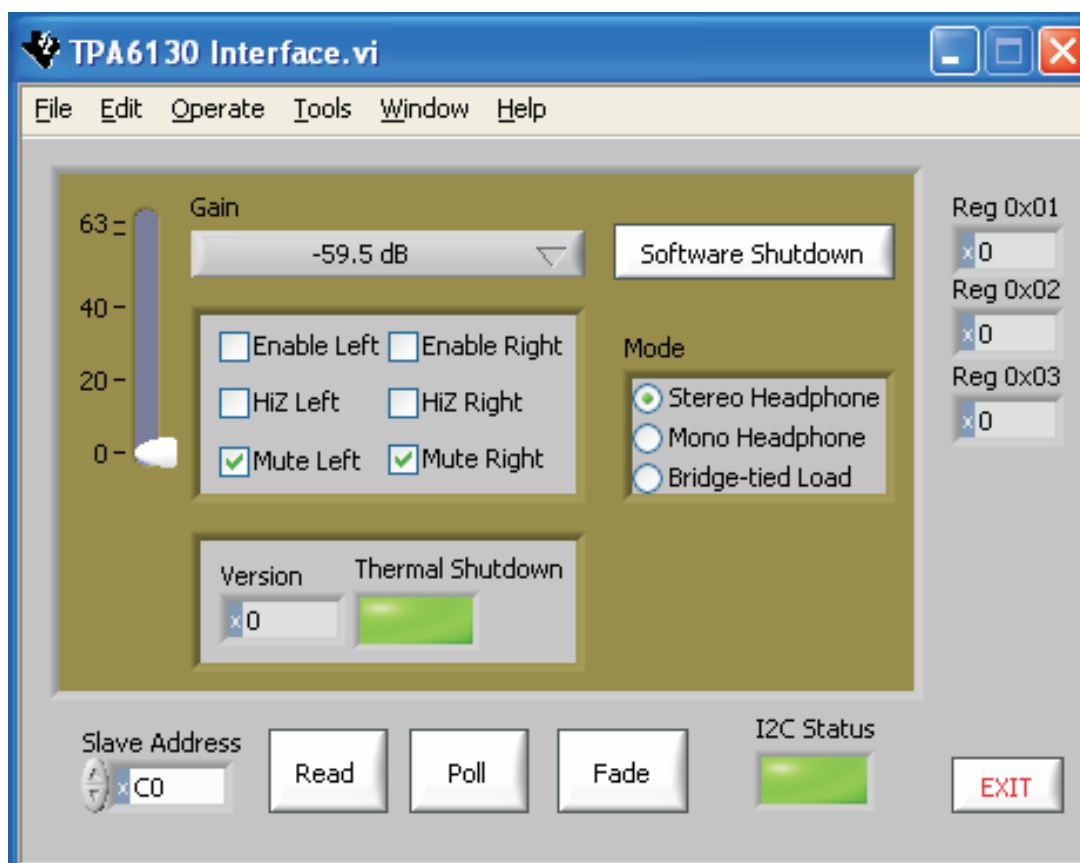

Figure 5. Software Interface
- The TPA6130A2 software interface is as shown in Figure 5.